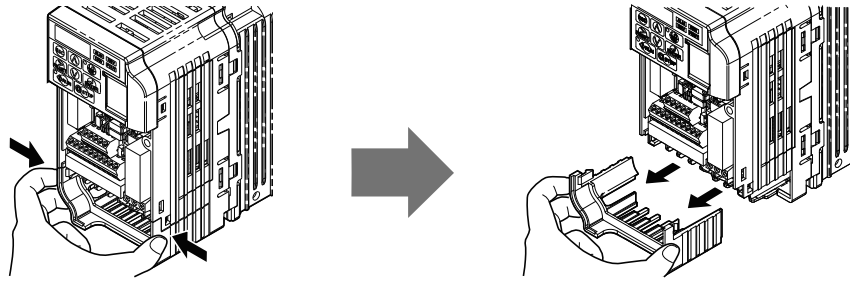
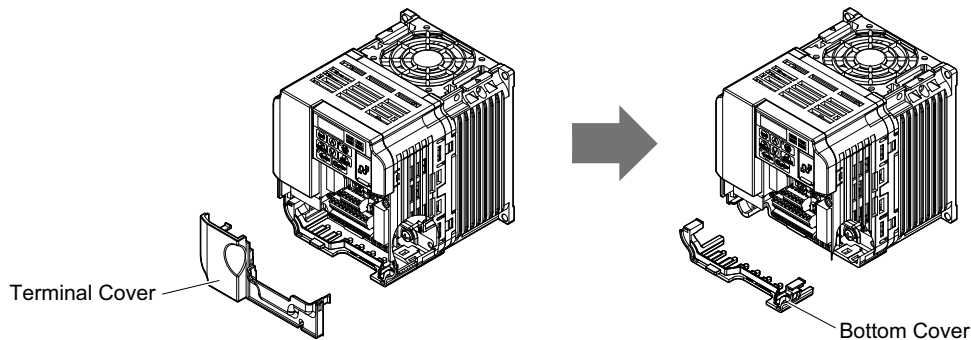

Figure 5 Remove the Bottom Cover on an IP20/Open-Chassis Drive (Models CIMR-V□BA0001B to BA0003B and 2A0001B to 2A0006B)
Figure 6 Remove the Terminal Cover and Bottom Cover on an IP20/Open-Chassis Drive (Models CIMR-V□BA0006B to BA0018B; 2A0008B to 2A0069B; 4A0001B to 4A0038B)
3. For IP20/Open-Chassis models CIMR-V□□A□□□□B, Remove the bottom cover of the drive by applying pressure to the tabs on each side of the bottom cover. Pull the bottom cover away from the drive while pushing in on the tabs to release the cover from the drive. Refer to **Figure 5** for details. Refer to **Figure 6** for drive models CIMR-V□BA0006B to BA0018B, 2A0008B to 2A0069B, and 4A0001B to 4A0038B, which require removing the terminal cover prior to removing the bottom cover.